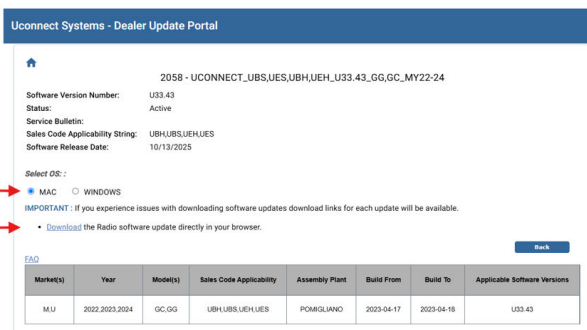

Fig. 1
- Download the software update file to your local PC's desktop. Make sure to select the "MAC" radial button for all downloads Fig. 1.